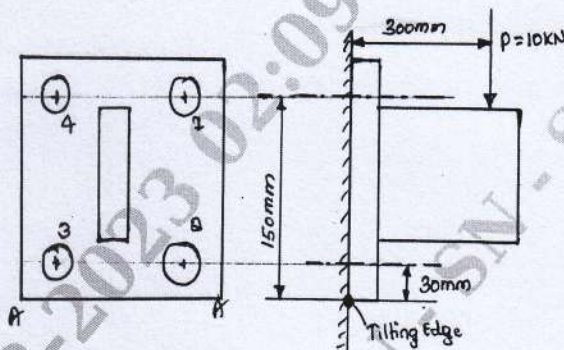

Fig Q9(b)
- b. A bracket is fixed to the wall by means of four bolts and loaded as shown in Fig Q9(b). Calculate the size of the bolts if the load is 10kN and allowable shear stress in the bolt material is 40MPa.